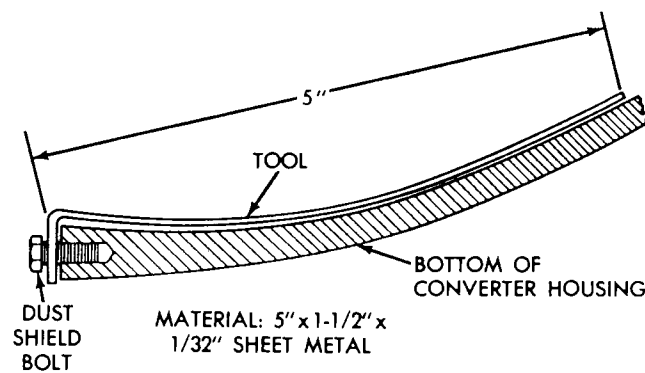

Fig. 4—Leak Locating Test Probe Tool
(1) Remove torque converter housing dust shield.
(2) Clean the inside of torque converter housing (lower area) as dry as possible. A solvent spray followed by compressed air drying is preferable.
(3) Fabricate and fasten test probe (Fig. 4) securely to convenient dust shield bolt hole. Make certain torque converter is cleared by test probe. Tool must be clean and dry.
(4) Run engine at approximately 2,500 rpm with transaxle in neutral, for about 2 minutes. Transaxle must be at operating temperature.
(5) Stop engine and carefully remove tool.
(6) If upper surface of test probe is dry, there is no torque converter leak. A path of fluid across probe indicates a torque converter leak. Oil leaking under the probe is coming from the transaxle torque converter area.
(7) Remove transaxle and torque converter assembly from vehicle for further investigation. The fluid should be drained from the transaxle. Reinstall oil pan (with RTV sealant) at specified torque.